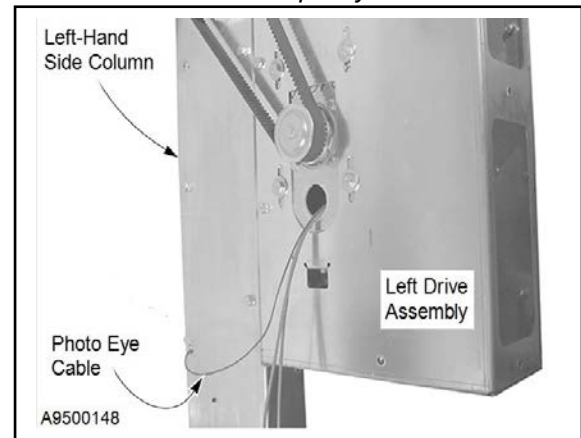

Figure 42
7. From the hole near the back of the side column, pass the photo eye cable into the left drive assembly and over to the door head junction box. (See Figure 42.)
8. Pass the second photo eye cable through the double-cable cord grip. Tighten the cord grip to lock both photo eye cables to the junction box. (See Figure 42.)